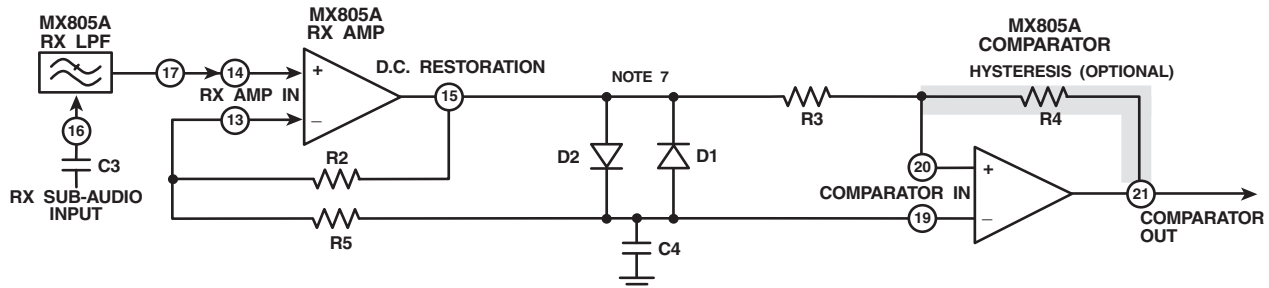
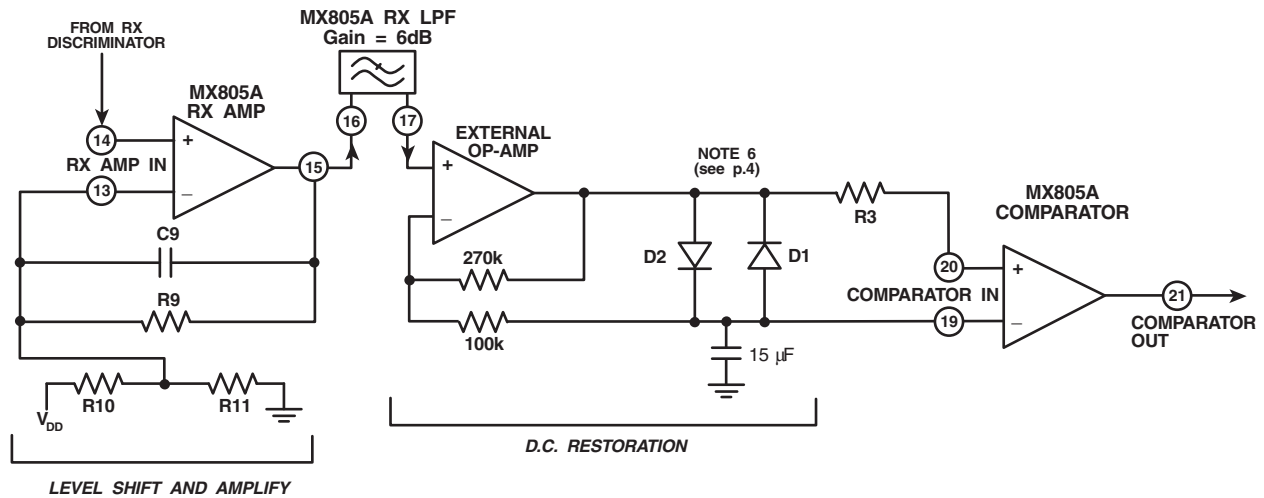

Figure 3: MX805A Input Components
Figure 4: MX805A Input Components using and External Op-Amp
3. Figure 3 and Figure 4 illustrate alternative input component configurations.
Figure 3 shows an input configuration that is generally for use for CTCSS signal and NRZ data reception.
The output resistance (open loop) of the on-chip Rx Amp is  $= 6\text{k}\Omega$ . In the configuration shown in Figure 3, the (Rx Amp) RC time constant is therefore 90ms. If this period is too long for some systems, i.e. those using half duplex, short data burst, and external amplifier should be considered in place of the on-chip Rx Amp.
For DC coupling the MX805A to the receiver's discriminator output when using burst mode NRZ communication, it is recommended that an additional, external Op-Amp is employed as configured in Figure 4. This configuration will quickly compensate for sudden shift of DC input bas.